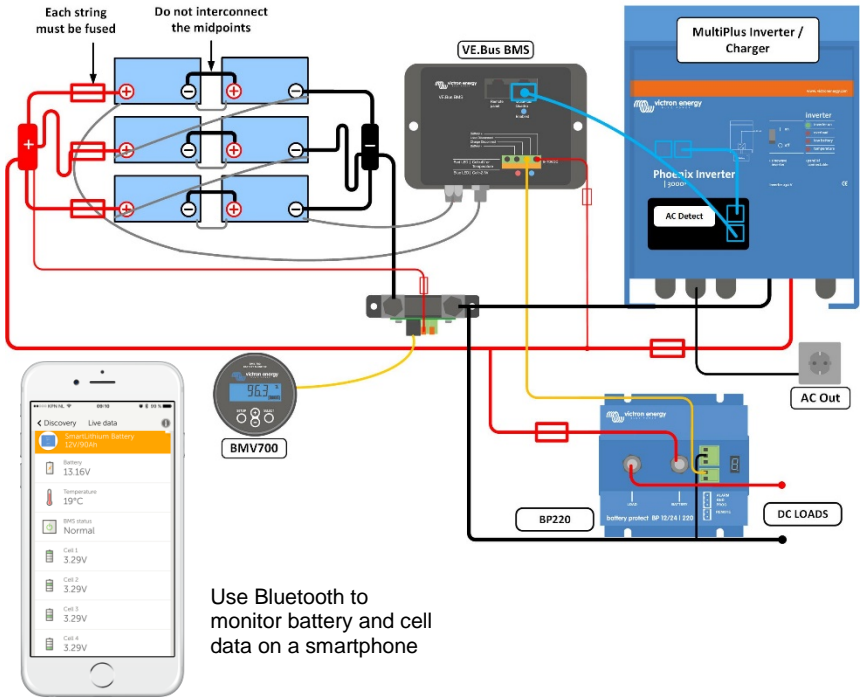

Figure 1: System example with VE.Bus BMS
**Each battery or string of batteries must be protected by a fuse, see figure 1.**